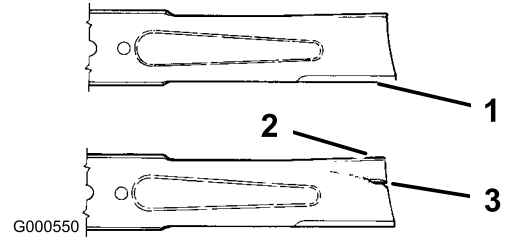

Figure 39
1. Inspect the cutting edges (Figure 39). If the edges are not sharp or have nicks, remove and
2. Inspect the blades, especially the curved area (Figure 39). If you notice any damage, wear, or a slot forming in this area (item 3 in Figure 39), immediately install a new blade.